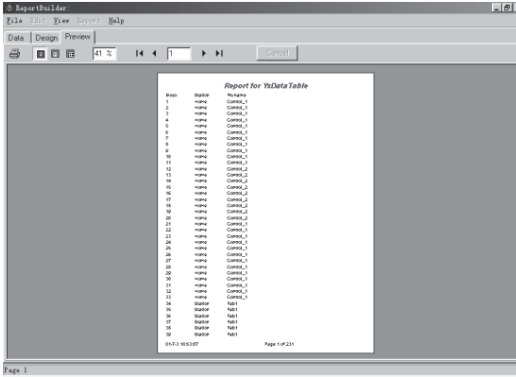

Fig. 8.15
3.3 Design the Body of the Report. For example, as in Fig. 8.15, set the **fields** such as Index, Station, Comat BoxX Name and so on.